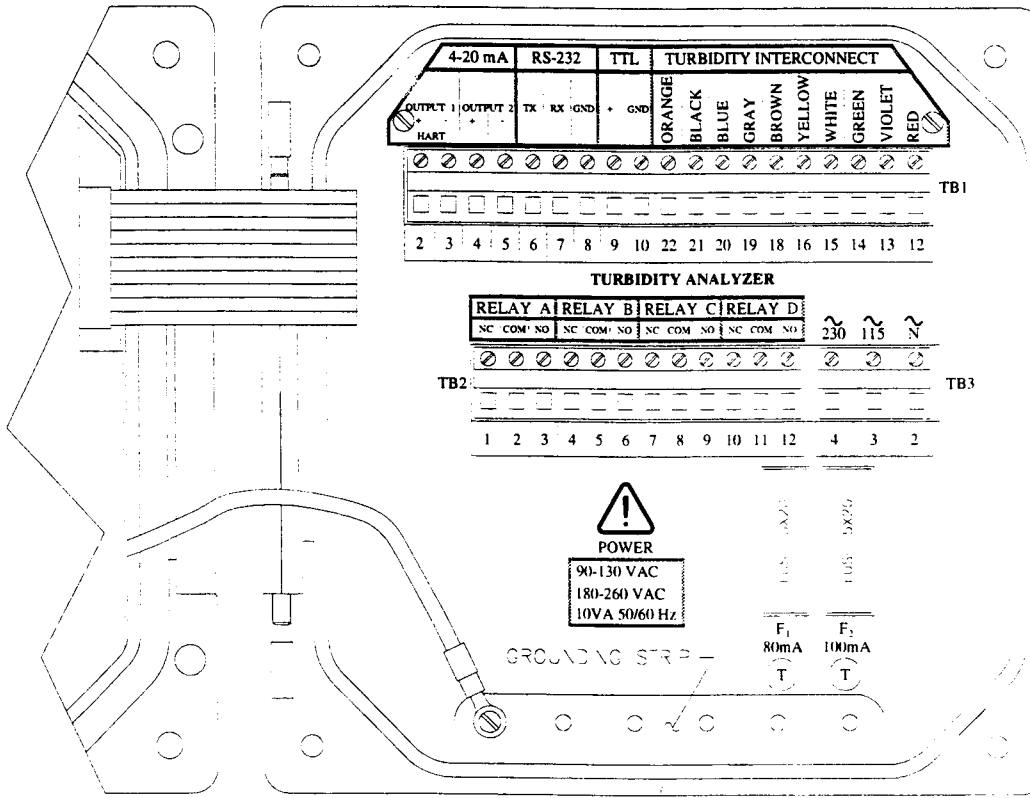

FIGURE 2-8 Terminal Block Designations for Analyzers with "B" Prefix Serial Number
To access terminal blocks for electrical connections, open the left-hinged enclosure door by unscrewing the four fasteners. Figure 2-8 or 2-9 shows the terminal block arrangement and terminal designations inside the analyzer.
- The grounding strip at bottom of case (5 open holes, Fig. 2-8) for analyzers with "B" prefix serial number.